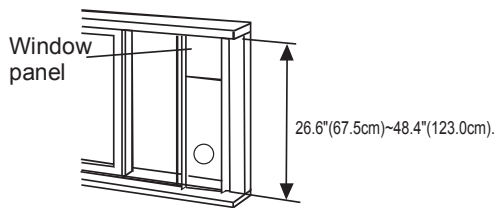

Fig. 13
2. Attach the window slider kit to the windowsill. Adjust the length of the window slider kit according to the width of window, shorten the adjustable window kit if the width of window is less than 26.6 inches. Open the window sash and place the window slider kit on the windowsill. See Fig.13.